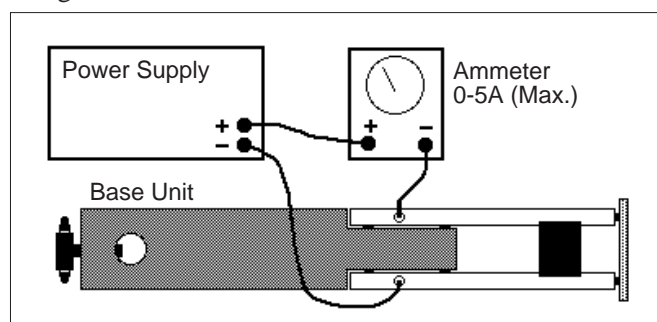

Figure 4 Connecting the Ammeter and Power Supply
- ① Mount the Main Unit on a lab stand having with a rod 3/8 inch (1.1 cm) in diameter or smaller.
- ② Select a Current Loop, and plug it into the ends of the arms of the Main Unit, with the foil extending down.
- ③ Place the Magnet Assembly on a balance with at least 0.01 gram sensitivity. Position the lab stand so the horizontal portion of the conductive foil on the Current Loop passes through the pole region of the magnets. The Current Loop shouldn't touch the magnets.
- ④ Connect the power supply and ammeter as shown in Figure 4.